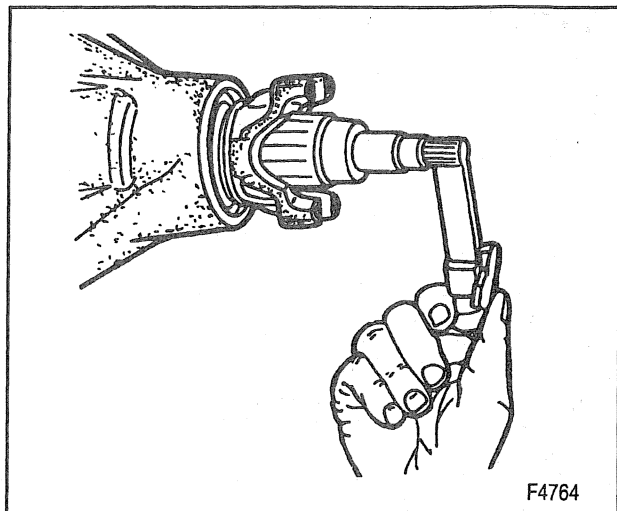

Figure 25—Measuring the Pinion Rotating Torque
Remove or Disconnect (Figures 25, 26, 27 and 28)
- The torque required to rotate the pinion. Record the torque value for reassembly (figure 25).